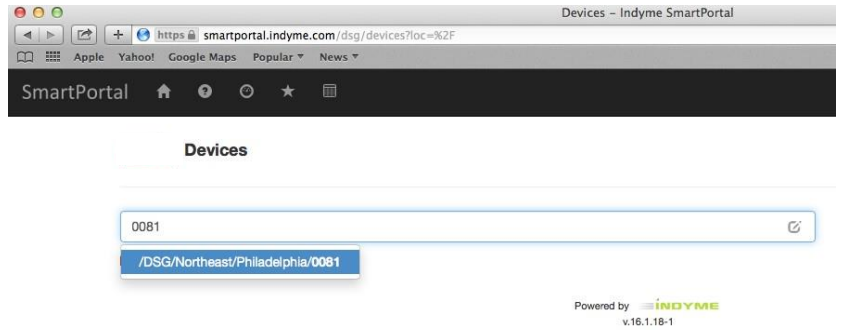

Figure 2
- 3- Select your store (see Figure 2)